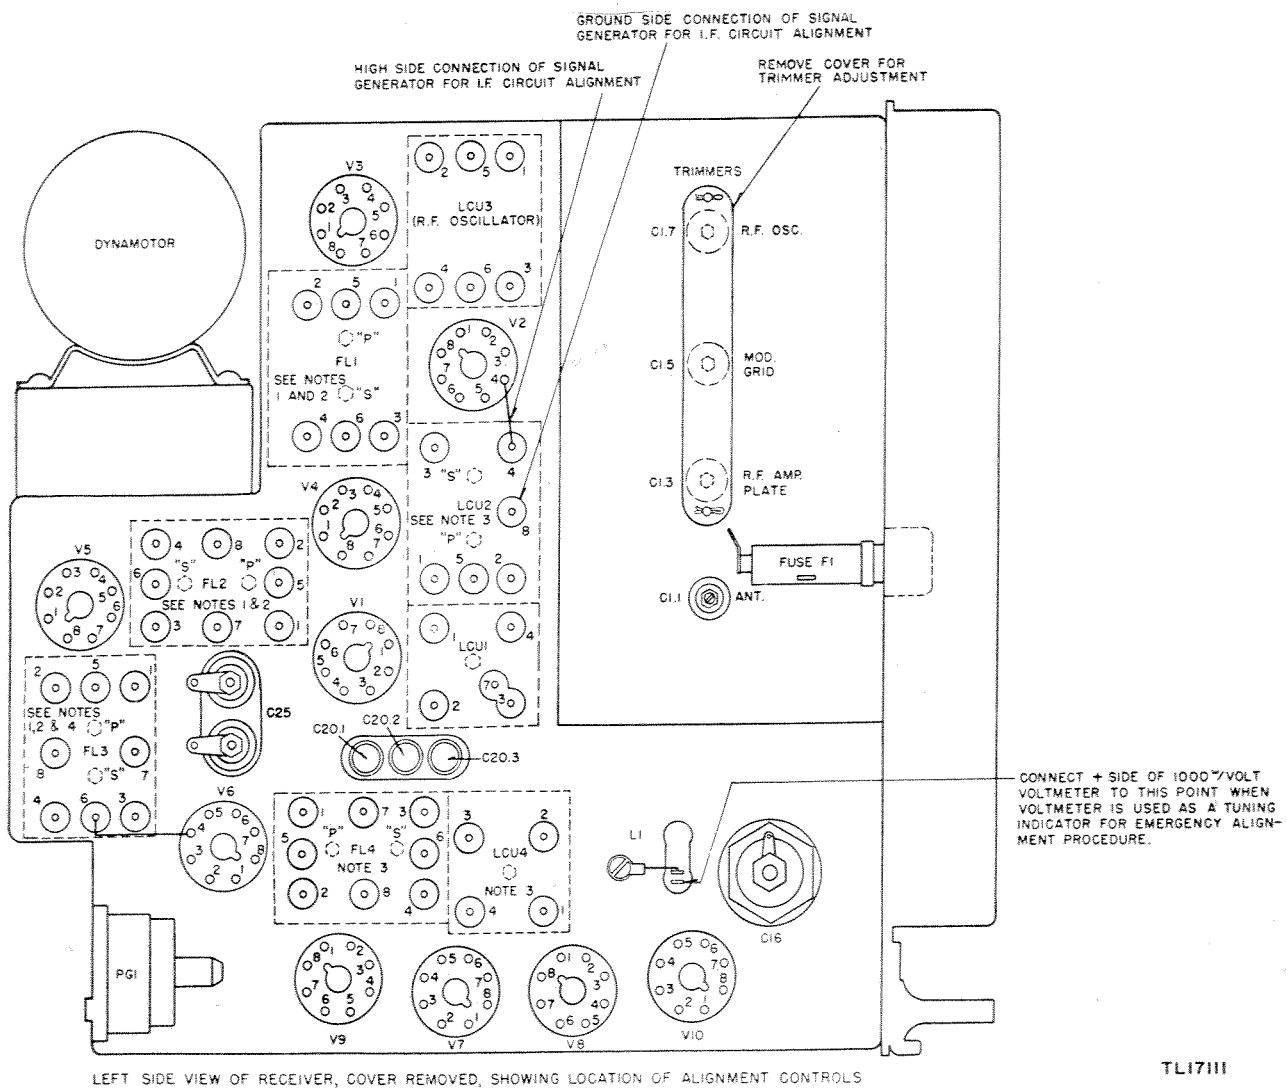

Figure 22. Radio Receiver BC-603-(\*), location of alignment and tuning controls.
(2) Short-circuit terminals 1 and 2 of FL3 of the good receiver with a short clip lead.
(3) Connect terminal 7 of FL4 in the good receiver, through the capacitor which is in series with the remaining wire of the twisted pair, to terminal 4 of tube V2 in the trouble receiver. The untwisted part at the ends of the pair of wires should be as short as possible, and the capacitor should be nearest to the good receiver.
(4) Place the SPEAKER switch of the trouble receiver at ON.
(5) Clip a voltmeter across L1 of the trouble receiver. Attach the minus side of the voltmeter to the ground lug. (See fig. 22.) Use the 3-volt scale of voltmeter listed in table I.
(6) If the receiver is seriously misaligned, obtain a rough adjustment by adjusting the slugs in FL3, FL2, and FL1, in that order, for maximum meter reading.
(7) Align LCU4 of the trouble receiver for zero beat and turn the TUNE-OPERATE switch to OPERATE.
(8) Clip a 1,000-ohm resistor across terminals 3 and 4 of FL3. Adjust the primary slug (P) for maximum meter reading.
(9) Remove the 1,000-ohm resistor and clip it across terminals 1 and 2 of FL3. Adjust the secondary slug (S) for maximum meter reading.
(10) Repeat step (8) above for FL2.
(11) Repeat step (9) above for FL2.
(12) Repeat step (10) above for FL1.
(13) Repeat step (11) above for FL1, and remove the 1,000-ohm resistor when the alignment is completed.
(1) Install the transmitter and the receiver in Mounting FT-237-(\*), with the receiver in the right-hand position.
(2) Connect the voltmeter (3-volt scale) across limiter cathode choke L1, as shown in figure 22.
(3) Short-circuit resistor R14, using a short jumper wire.
(4) Connect the 100-mmf capacitor between terminals 1 and 2 of filter unit FL1.
(5) Remove the cover plates from tuning units LCU1 and LCU2, and from trimmer capacitors C1.3, C1.5, and C1.7. (The cover plate of C1.7 is beside C24.)
(6) Turn the SPEAKER switch to ON, set the TUNE-OPERATE switch to TUNE, and turn the SQUELCH switch to OFF. Turn the VOLUME and SENSITIVITY controls to the extreme right.
(7) Adjust the transmitter for operation near the 28-mc end of its frequency range. Place the transmitter in the RECEIVER TUNE condition. Start the transmitter and the receiver.
(8) After the receiver has warmed up, carefully adjust the receiver dial for zero beat with the trans-